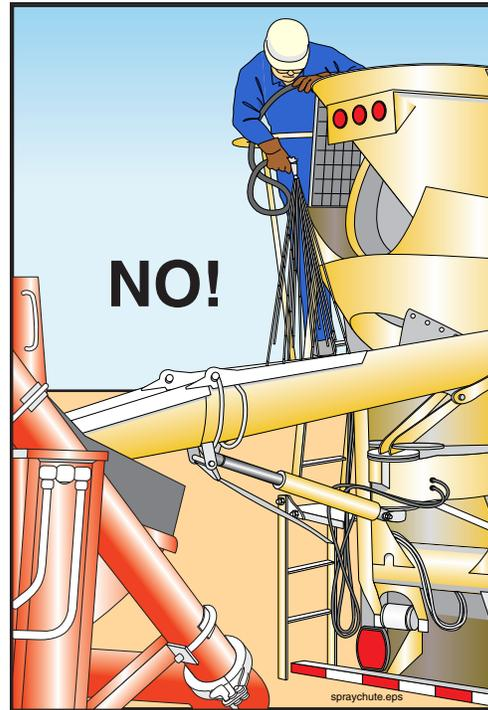

Figure 14
5.1 ⚠️ WARNING! Plugging hazard. Do not wash out the mixer truck into the pump hopper. Water washes the cement and fine aggregate out of the mix, leaving a coarse mixture that cannot be pumped (called segregation). See Figure 14.